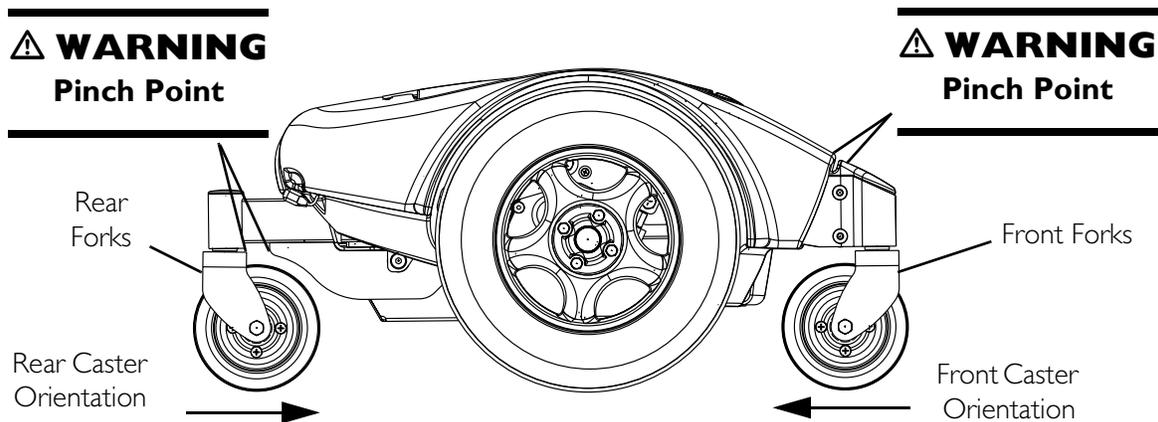

FIGURE 3.2 Lifting/Stairways - orientation of casters and Pinch Points
NOTE: For this procedure, refer to FIGURE 3.2.
5. Ensure that the casters are oriented as shown in FIGURE 3.2.
6. Using the rear and front forks as hand hold supports, transfer the wheelchair base to desired location. Refer to FIGURE 3.2.